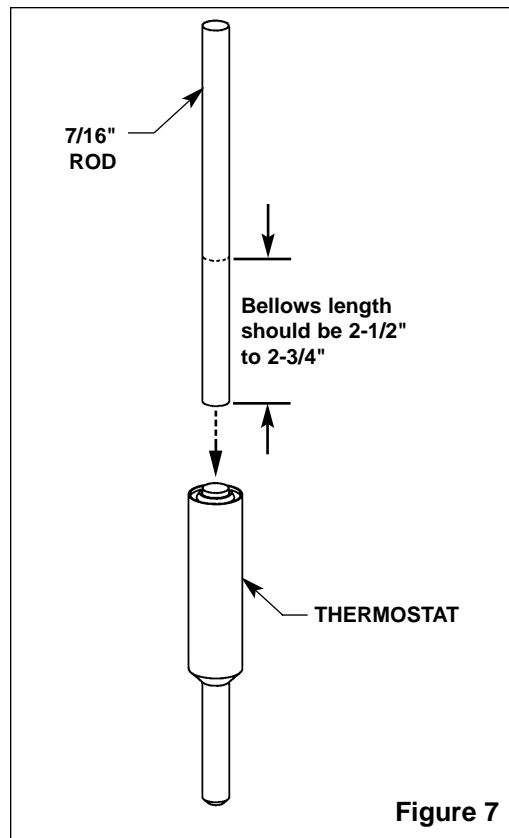

Figure 7
2. Insert a 7/16" dia. rod into the thermostat bellows. Mark the length of the rod inside the bellows (see Figure 7).
3. Use a marking pen to mark the thermostat bellows length (at room temperature, with 10 lb. of force, the bellows length should be approximately 2.6") (see Figure 7).